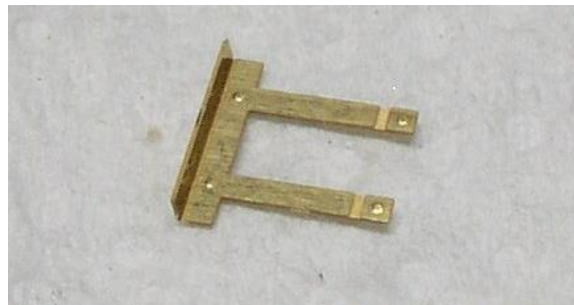

Figure E15
20. Use the dimples at the underside of the Running Board End Support to emboss rivets. Fold the top of the Running Board End Support 90°. See Figure E15.